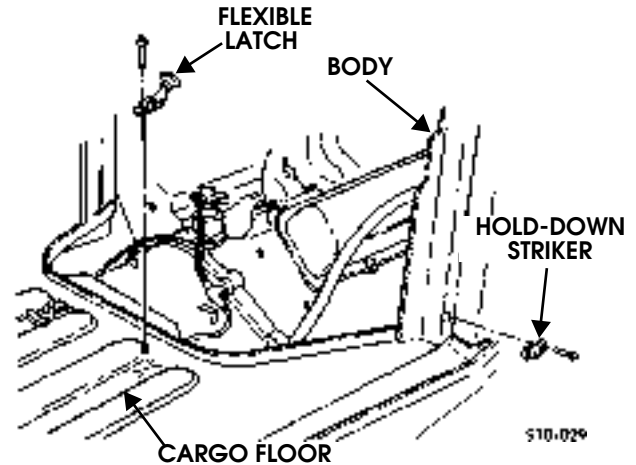

Figure 10-26: Inner Engine Access Cover Latch Location
2. Remove rivets and hold-down striker from body (Figure 10-26).
1. Secure flexible latch to cargo floor with rivets (Figure 10-26).